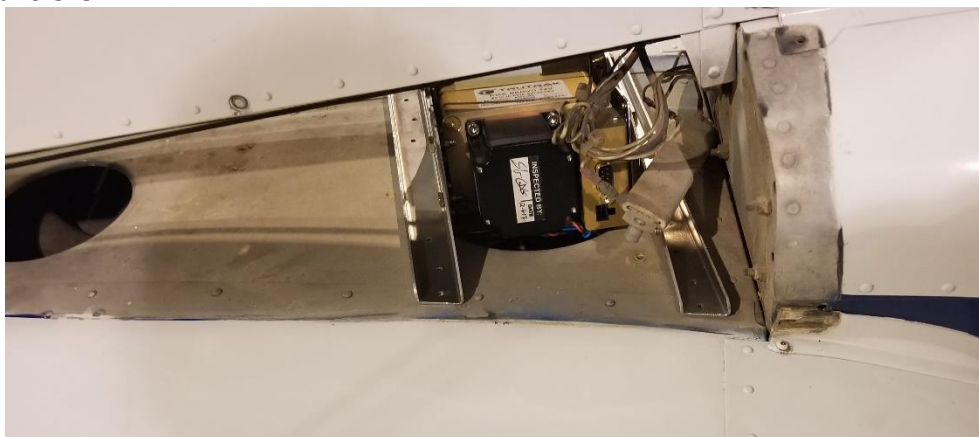

Figure 3-5
- 5.1. Place bracket and servo assembly under the vertical stabilizer in the forward hole in the horizontal bulkhead with the wider bracket forward as shown in figure 3-5.